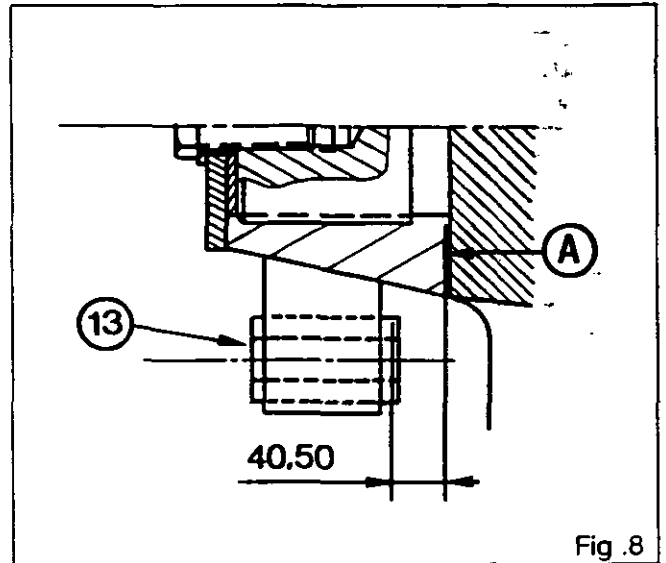
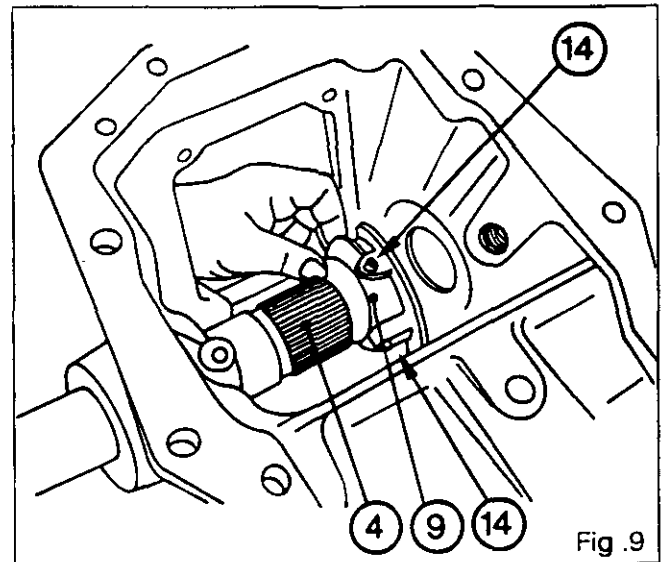
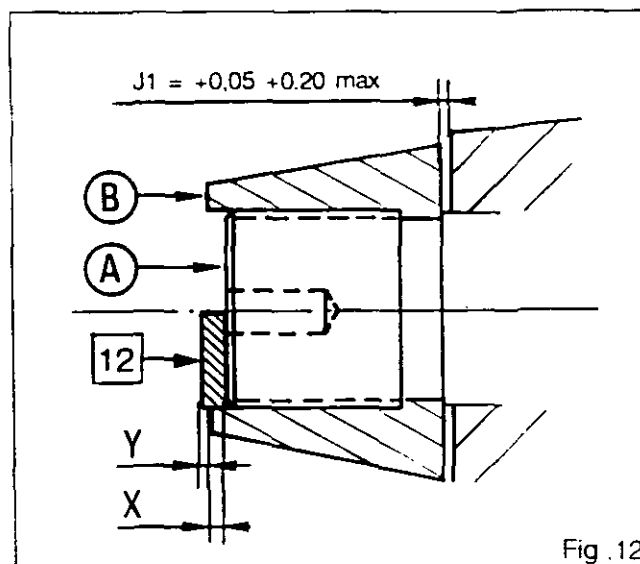
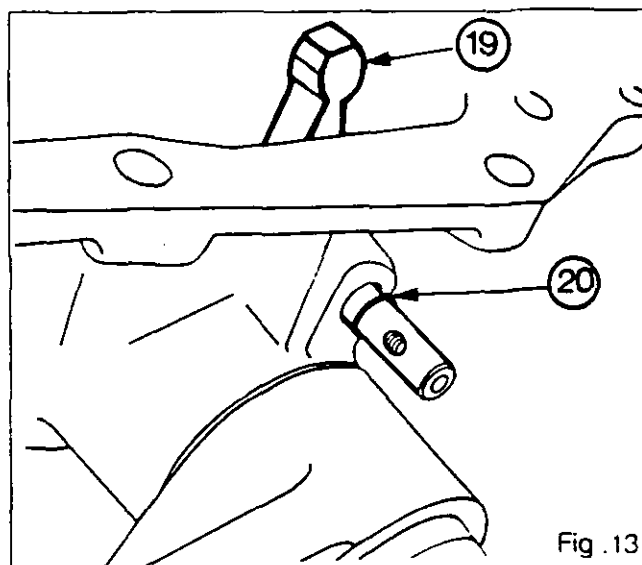

Fig. 8
Fig. 9
Fig. 12
Fig. 13
**Note: The bushes (13) are mounted with Loctite 648 at a distance of 40.50 mm from the face A (Fig. 8).**
33. Fit the bushes (8) in the cover.
34. Fit the cup plug (17) smeared with Loctite 542 flush with the cover (2- speed p.t.o.).
35. Mount the lift shaft (4) and the cam (9) in the cover (Fig. 9).
36. Tighten the set screws (14) smeared with Loctite 241 to a torque of 5 Nm (Fig. 9).
37. Position the O-rings (7) and the nylon rings (6).
38. Grease the splines of the shaft (4) (Anti-Seize Grease or equivalent).
39. Fit the lift arm (5) (sensor side), the washer (1), the retainer (3) and the screw (2).
40. Tighten the screw (2) so as to align two flat sides of the screw head with the two tabs of the retainer (3). Bend back the tabs.
**Note: If work has been done without the need to carry out shimming J1 (Fig. 12) (eg. replacement of seals) it is essential to place the shims [12] at the left end of the shaft (factory fitting) to preserve the correct positioning of the cam and avoid having to adjust the sensor (26).**
41. Carry out shimming of the shaft (4) (Fig. 12) to obtain:
45. By measuring dimension X, determine the thickness of spacers Y needed to obtain (Fig. 12):
46. Mount the previously selected shims [12], the washer (1), the retainer (3) and the bolt (2).
47. Tighten the bolt (2) so as to align two flat sides of the screw head with the two tabs of the retainer (3). Bend back the tabs.
48. Refit the finger (19) (Fig. 13).
49. Mount the O-ring (20) from the exterior side of the cover (Fig. 13).
50. Smear the screws (18) and (22) with Loctite 241 and tighten.
52. Fit the elbow connector (23).